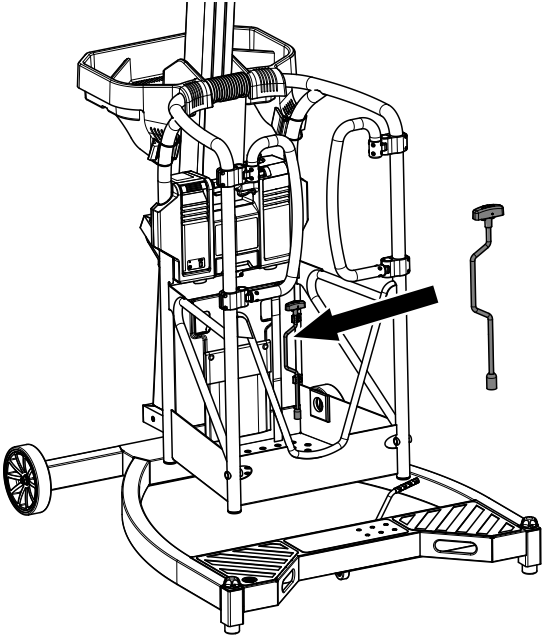

Figure 2-8. Location of manual descent crank
8. **Manual Descent Crank** - Ensure it is present and securely attached (Figure 2-8.).